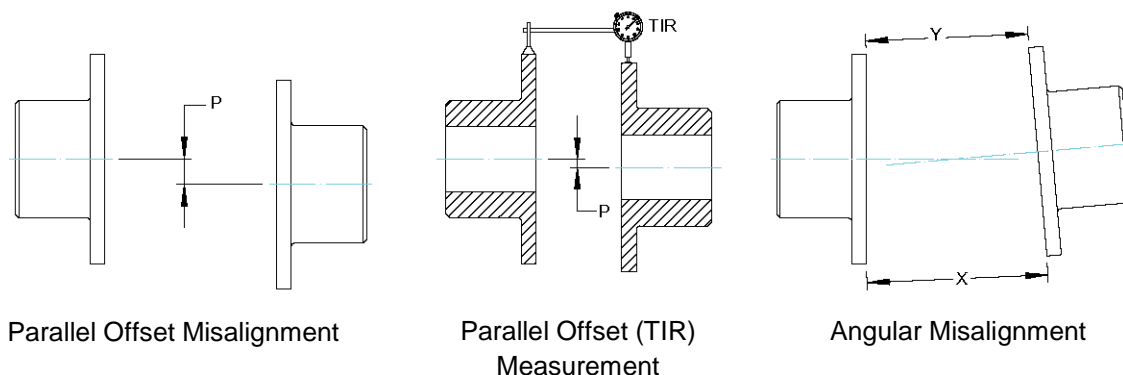

Figure 5. Coupling Alignment
2. The "Parallel Misalignment" value (P) is the offset between the centers of the hubs, as shown in Figure 5.
3. When the Parallel Offset is measured by rotating the hubs in unison with dial indicators as shown in Figure 5, the Total Indicator Reading (TIR) should be divided by (2) to calculate (P).
5. The "Angular Misalignment" value is the maximum difference between the measurements X and Y taken at opposite ends of the hub flanges, as shown in Figure 5.